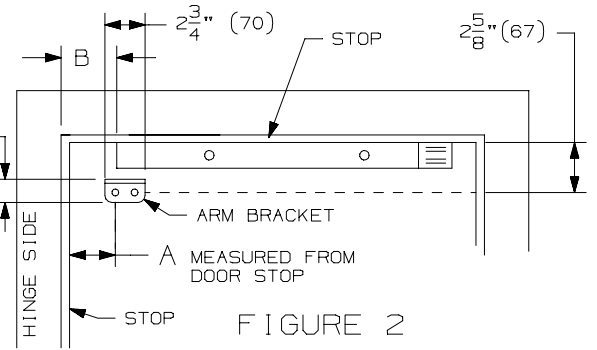

FIGURE 2
6. CLOSE THE DOOR AND PLACE UNIT AGAINST BOTTOM OF STOP (SEE FIG. 2)
12. MARK THE BRACKET HOLE LOCATIONS ON THE DOOR (SEE FIG.2)